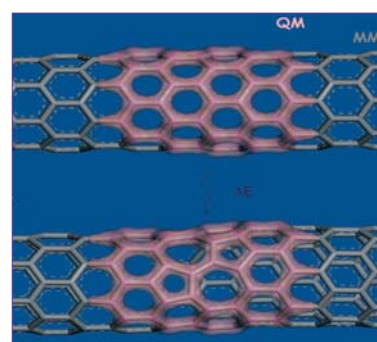

Figure 2. A study of the formation energy of a Stone-Wales defect on a carbon nanotube using QMERA.
- probe multiple defect sites on a carbon nanotube (see Figure 2)